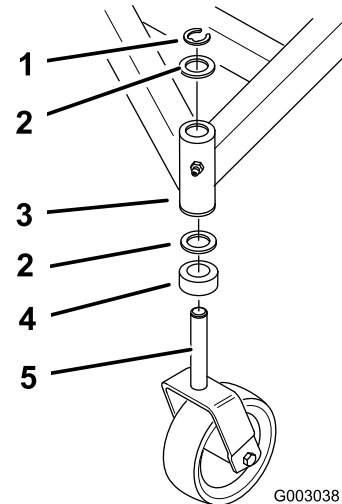

Figure 52
mounting tube to the top to lower the front of the mower (Figure 52).
- To change the side-to-side leveling, move the thrust washers on one castor wheel fork only. Move the thrust washer(s) from the top of the carrier frame mounting tube to the bottom to raise the corresponding side of the mower. Move the thrust washer(s) from the bottom of the mounting tube to the top to lower the corresponding side of the mower. (Figure 52).